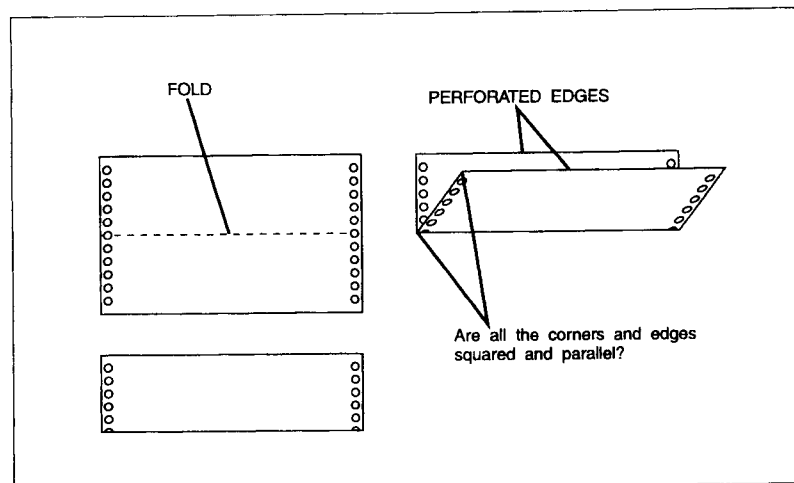

Figure C-6. Perf. Edges Check
4. Now, fold another sheet of paper in half, perforation to perforation, taking great care to square one set of corners and to keep perf edges parallel (see Figure C-6).
6. Now compare either green bar paper line or preprinted line from on one half to other half of the single sheet (see Figure C-6). Ideally they should overlap or be parallel.